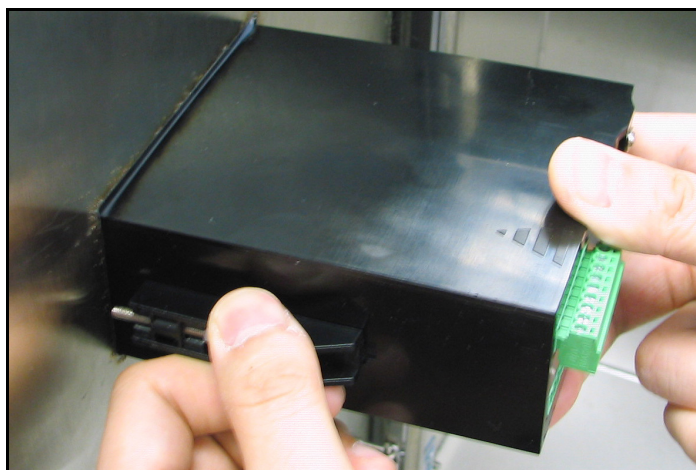

Figure 13: Locking the Mounting Brackets in Place
5. Hold the chassis and lock each mounting bracket in place by sliding it toward the rear of the MTS6 (see Figure 13).